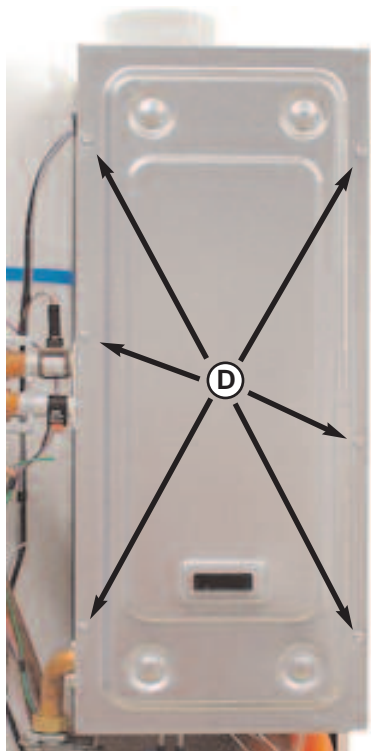

Fig. 18.18
2. Unscrew the six self tapping screws “D” to release the sealed chamber front panel and lift clear (see Fig. 18.18);